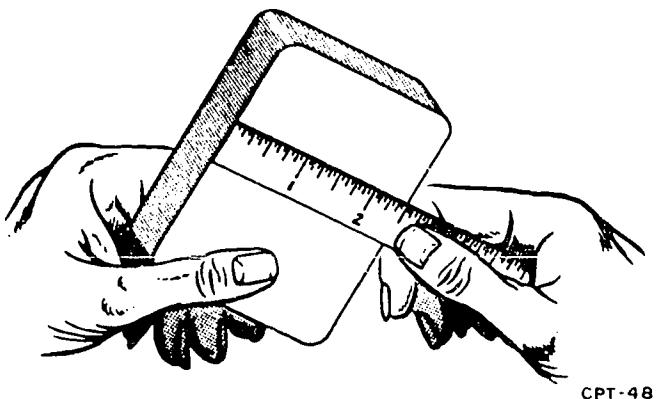

Figure 1-25. Using a 6-inch rule.
**Steel rules.** Steel rules are available in lengths of 6, 12, and 15 inches and may be rigid or flexible. They may have information on the back side, such as a decimal equivalent scale. To measure with a steel rule, use it as shown in figure 1-25. You will be using several layout and measuring devices that incorporate a rigid steel rule, such as the combination set, framing square, and circumference rule. These are discussed later in this section.